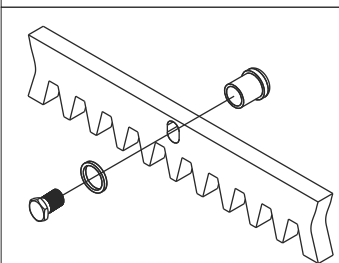

Fig. 8
**5.2.** Fix on each gear rack element the support pawls with the appropriate lock screws, making sure to put them in the upper part of the hole (Fig. 8);